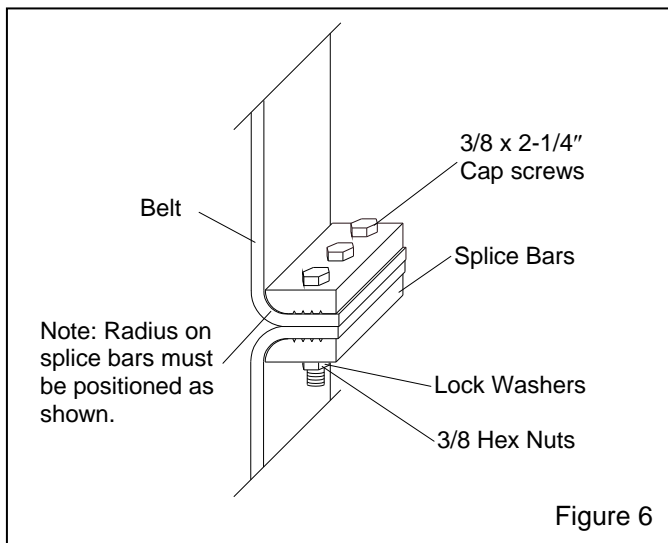

Figure 6
**3.9.3** Install the splice bar as shown in Figure 6. Remove the threading rope. Make sure the splice bar bolts are evenly tightened, and the two ends of the belt are aligned properly, as the splice bar is tightened.